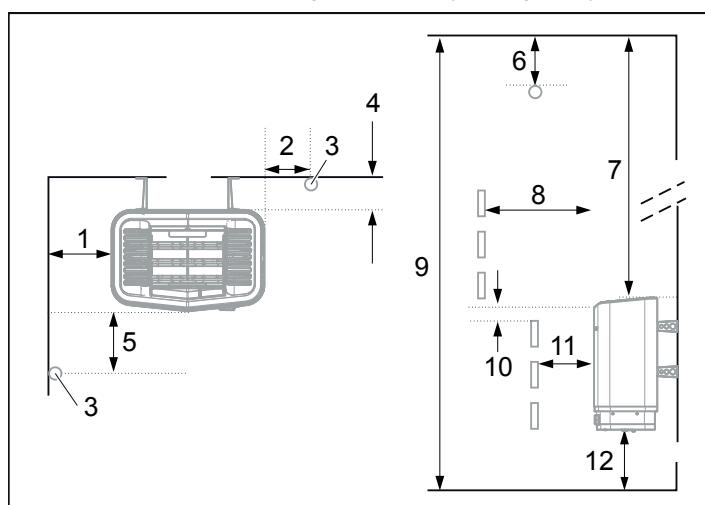
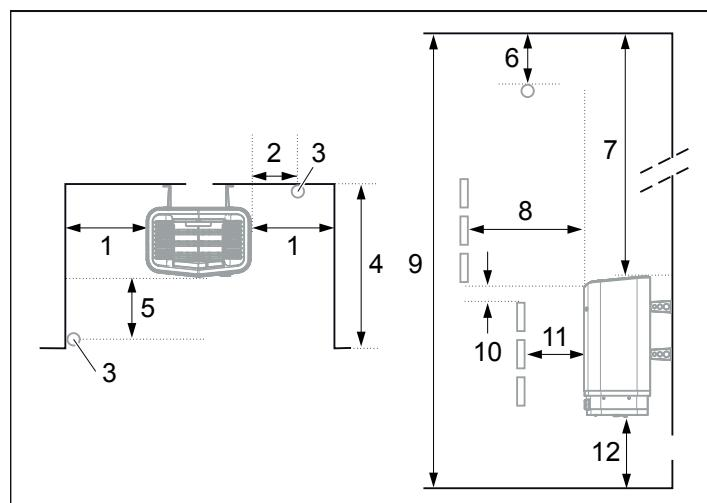

Figure 3: Positioning the heater - normal installation
Figure 5: Positioning the heater - recess installation
- Plan the sensor positioning (see Figure 3 and Figure 5).
- on the same wall as the door (or the side wall if very close to the door wall). The heater may also be placed in a recess (see Figure 5).
- Position the heater at a safe distance from the floor, side walls and interior fittings (see Figure 3).
Position the sensor according the picture (see Figure 3).
1. Position the heater at a safe distance from the floor, side walls and interior fittings (see Figure 5).
2. Position the sensor according the picture (see Figure 5).